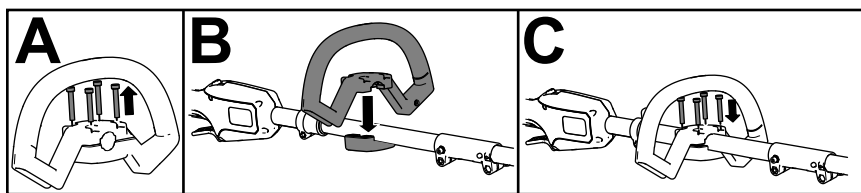

Figure 5
1. Separate the auxiliary handle from the handle plate by removing the 4 socket head screws using the provided Allen wrench (A of Figure 5).
2. Line up the auxiliary handle with auxiliary handle plate on the trimmer handle (B of Figure 5).
3. Secure the auxiliary handle to the handle plate with the 4 socket head screws previously removed (C of Figure 5).